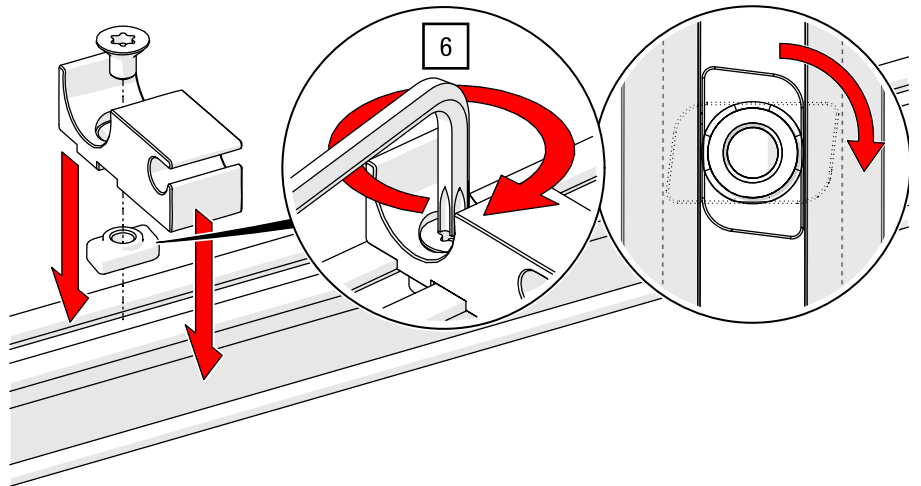

Fig. 92: Top cord operation – Mount the cord operation straight
6. Position one of the straight cord guides near each of the suspensions, distribute the rest along the remaining straight track section (protruding side on the opposite side of the cord clamp) and screw it on with a TORX® T40 key and 27 Nm (see Fig. 92).